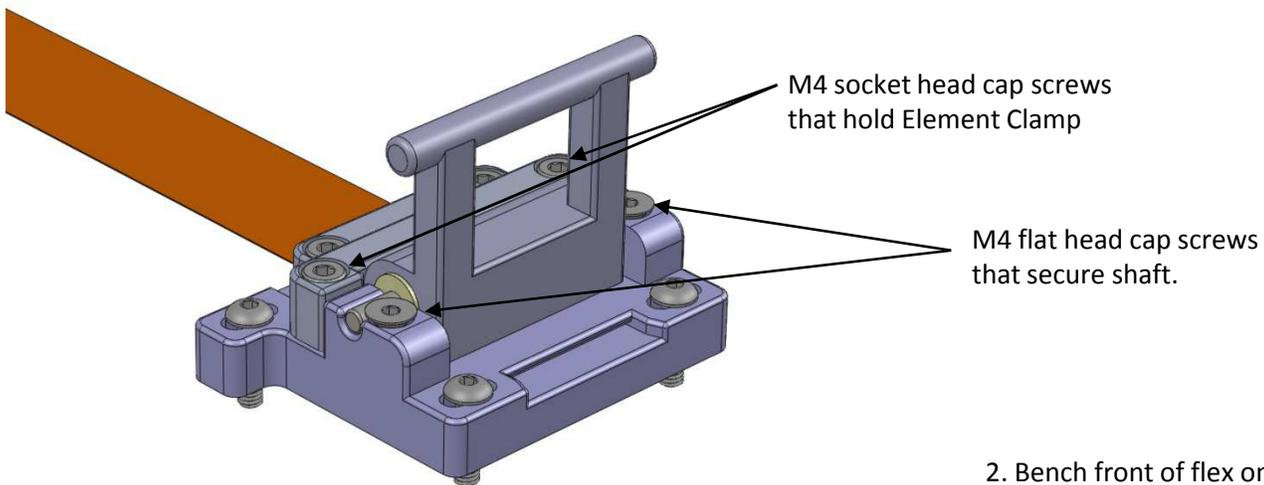

Figure 4
Remove Lever - Loosen flat head screws (using 2.5mm hex key) and slide out steel dowel pin. Lever will come free (figure 4).
Removing Element – Remove (2) M4 screws (using 3mm hex key) that hold the element clamp (figure 4). Element will be free when clamp is removed.